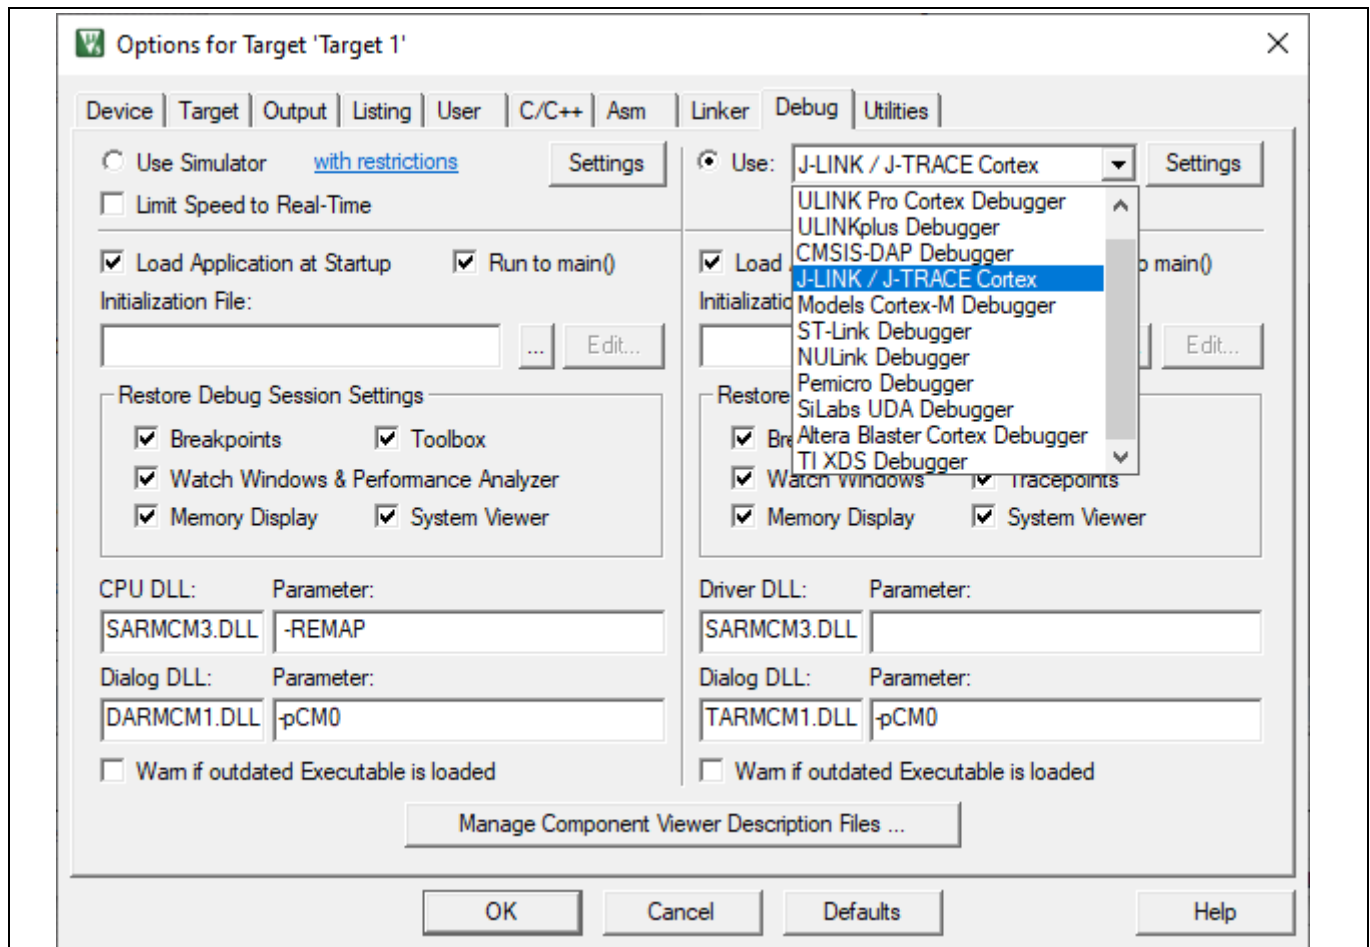

Figure 7 Keil µVision® IDE Options for Target Window
- 4) Go to the “Debug” tab and select “J-LINK/J-TRACE Cortex” from the drop-down menu on the right side of the page as shown in Figure 7.